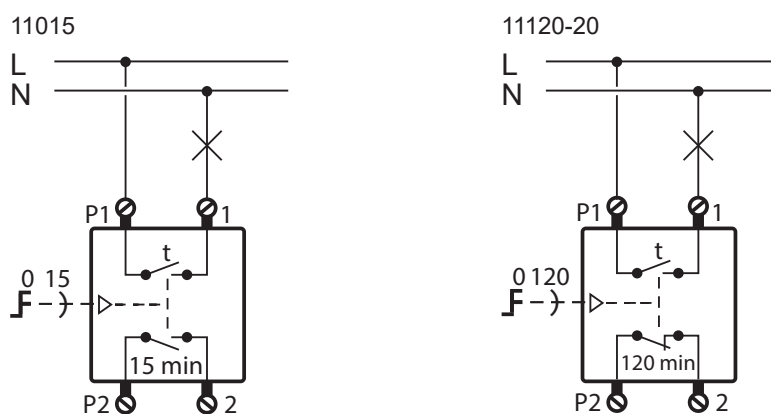

Fig. 2: Connection diagrams
- Connect the insert according to the connection diagram. (fig. 2)